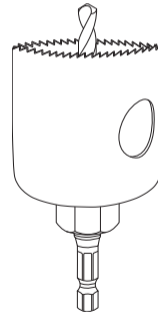

Fig. 2
## RECESSED MOUNTING (Fig. 2 & 3)
1. Drill a hole through cabinet or shelf with a 2.5 in. hole saw and drill (Fig. 2).